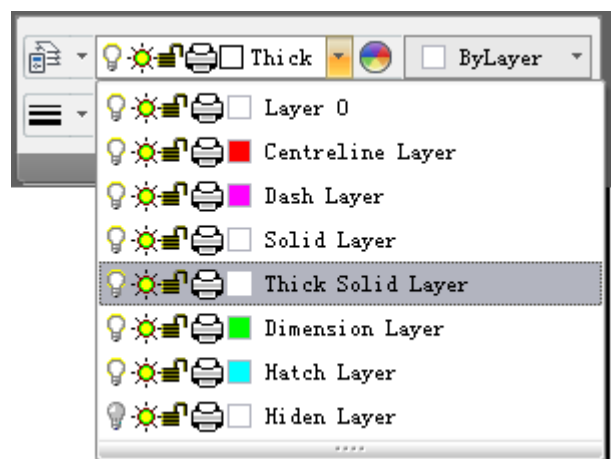

Figure 1-44 Pull down menu of layer
- 1) When no object is selected, click Color layer toolbar, or click the pull down list of Attribute panel in Command tab, list of layers will popup, left click on the desired layer to select it as current layer and operate. Refer to figure 1-44.